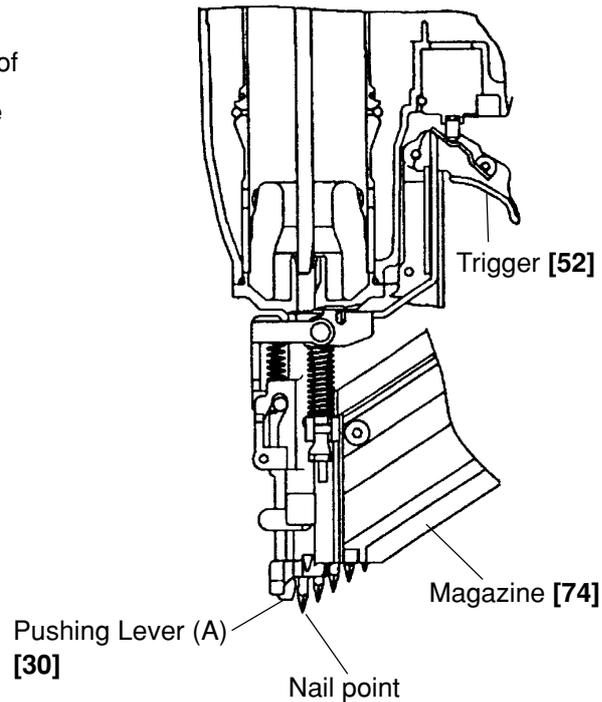

Fig. 7
(1) Pushing lever mechanism
(a) The tip of Pushing Lever (A) [30] is at the back of the nail point after loading nails in the Magazine [74]. Thus, the nail point can be easily inserted into the hole in the metal connector (Fig. 7).